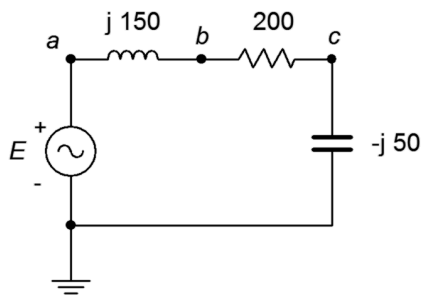

Figure 7.3
3. For the circuit shown in Figure 7.3, determine apparent power S , real power P , reactive power Q and power factor PF . Also, draw the power triangle. The source is 120 volts.